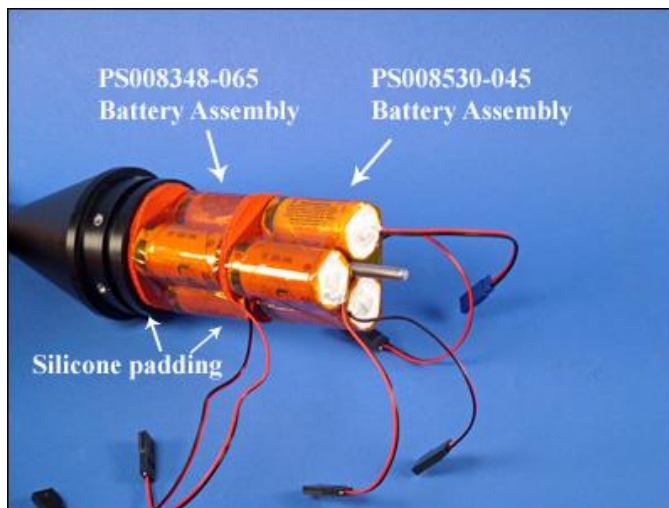

Fig. 6 Nose cone with both battery assemblies installed
2. Install the silicone padding over the threaded rod, and then take the battery assembly **PS008530-045** comprised of two batteries with black connectors with 4.5" leads and one battery with a blue connector with 4.5" leads and slide it down over the threaded rod. (**Fig. 6**)